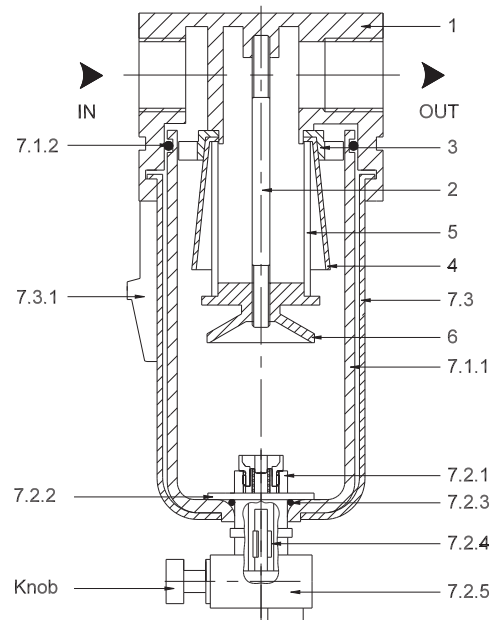

Fig. 3
1. For draining the condensate water collected in the bowl ( 7.1.1 ), press the knob of the Drain valve ( see fig.3).